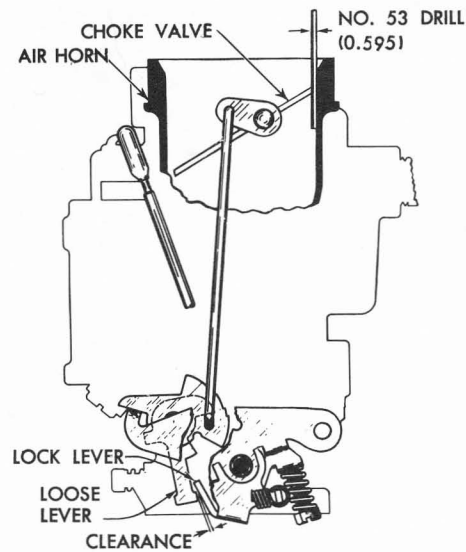

Figure 3-72—Stromberg Lock Lever Adjustment
6. Remove the No. 26 drill and place a No. 53 drill (0.595") at the same point, then hold choke valve firmly closed against the drill. See figure 3-72.
lever on throttle stem and the loose lever behind the fast idle cam, as indicated in figure 3-72.